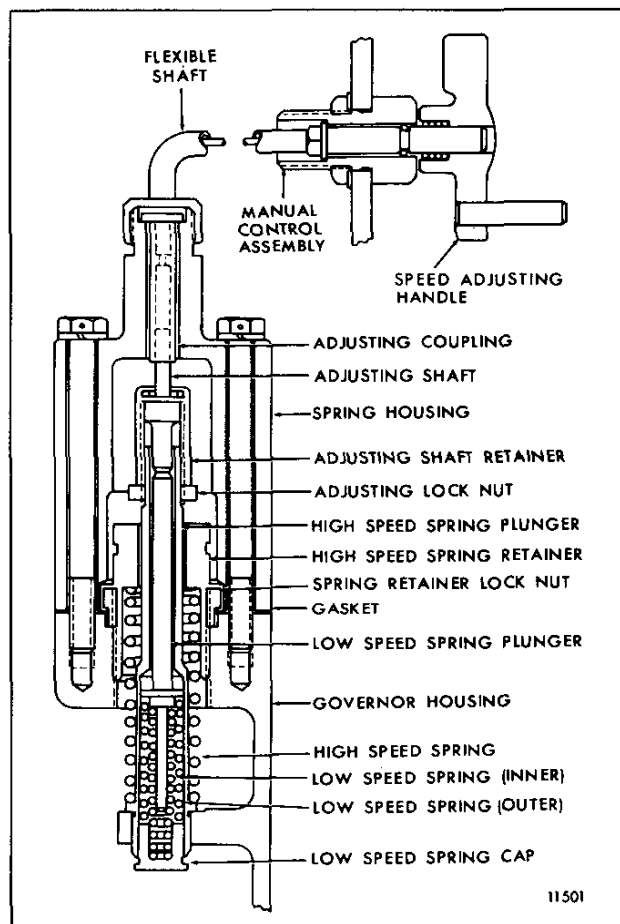
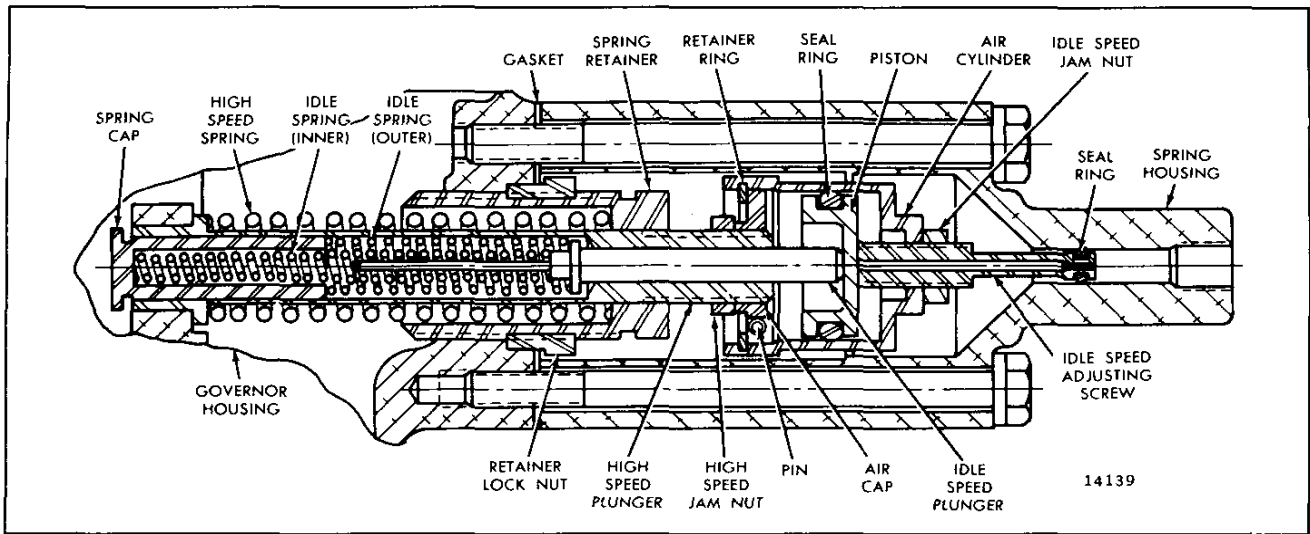

Fig. 1 – Cable Operated Governor Spring Housing and Components
Fig. 2 - Air Operated Governor Spring Housing and Components
During highway operation, the governor functions as a limiting speed governor, controlling the engine idling speed and limiting the maximum operating speed. At the unloading area, the throttle is left in the idle speed position and the speed adjusting handle, on the cable operated governor (Fig. 1), is turned to the speed required within the above range to operate the auxiliary equipment. For the air operated governor (Fig. 2), the engine speed is changed to the speed required by increasing or decreasing the air supply pressure to the governor. The governor, then functions as a variable speed governor, maintaining a constant speed when the load is constantly changing, during the unloading operation. Before resuming highway operations, the speed adjusting handle on the cable operated governor must be turned back to the stop, then turned ahead about one-quarter of a turn. The air operated governor's air supply pressure must be vented before resuming highway operations.
- For *Cable Operated Governors* make a preliminary idle speed (normal highway idle speed) adjustment as follows (Fig. 1):
4. For *Air Operated Governors* make a preliminary idle speed (normal highway idle speed) adjustment as follows (Figure 2):